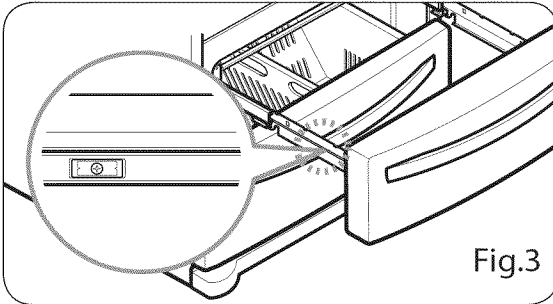

Fig.3
- Lower door into final position and tighten the screws. (Fig.3)